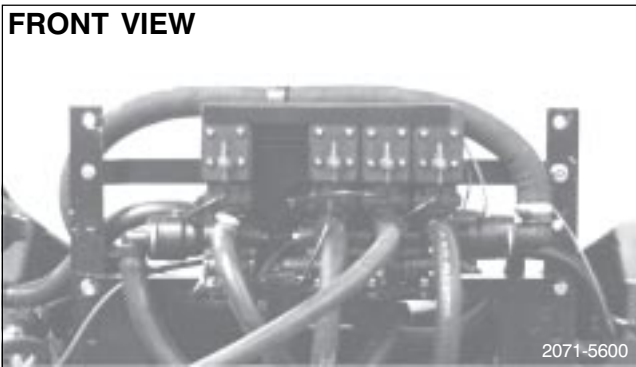

FIG. 14
35. Route 4MM Pressure Gauge Hose to inlet side (right) of Boom Control Valves and attach coupler on the Boom Supply. Note: Cut off any excess tube (See FIG 14, page 14).